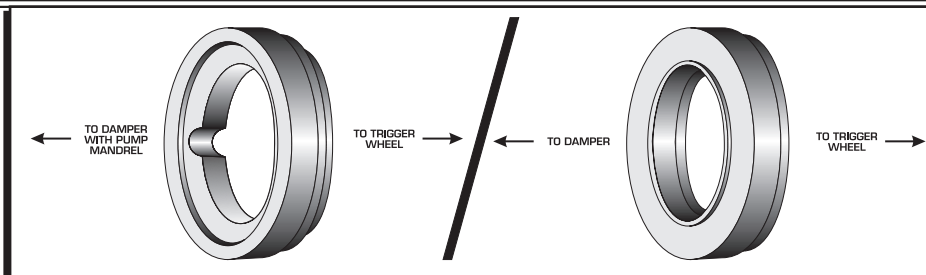

Figure 2 Choosing a Centering Ring.
The trigger wheel is designed so it can be used on engines with a dry sump oiling system as well as stock dampers. Two centering rings are included; one for use on stock or most aftermarket dampers and one for use with a dry sump pump drive mandrel (Figure 2).
2. Install the correct trigger wheel centering ring onto the trigger wheel (Figure 2).